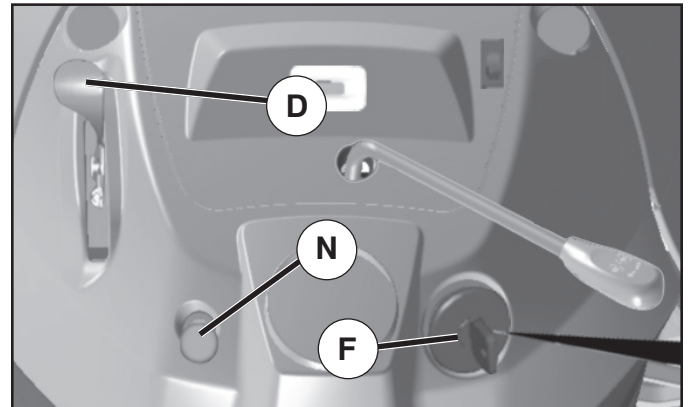

Fig. 5
TO USE THROTTLE CONTROL (D) (See Fig. 5)
TO USE CHOKE CONTROL (N) (See Fig. 5)